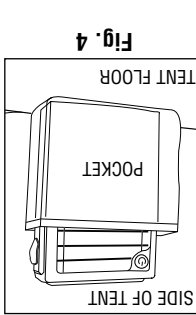

Fig. 4
5. Place battery pack in pocket sewn into side of tent. (Fig. 4)